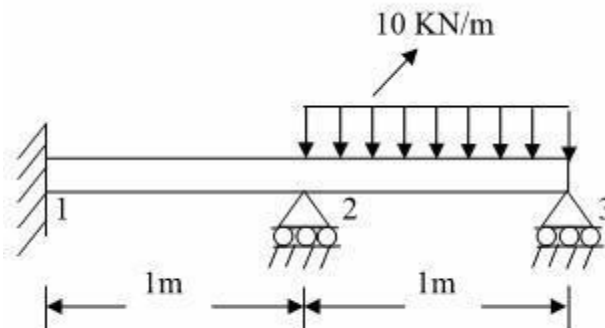

Fig.5
- b) For a beam and loading shown in fig.5, determine the slopes at 2 and 3 and the vertical deflection at the midpoint of the distributed load.